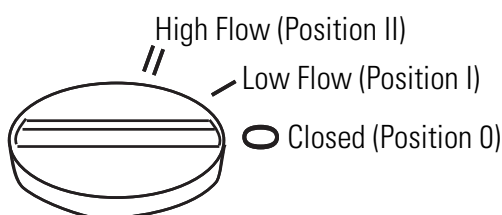

Figure 6-6. Gas ballast control positions
4. Set the gas ballast control to Closed (0), as shown in Figure 6-6.